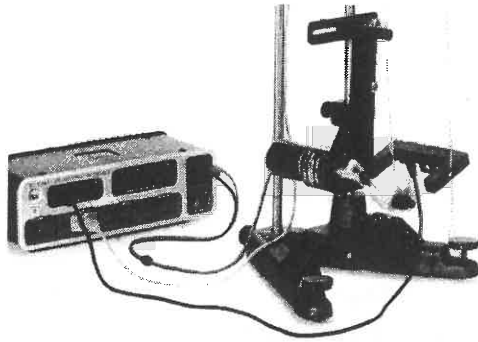

Figure 2. Driver Photogate
1. Mount the driver on a rod base and attach a photogate to the driver as shown in Figure 2. Use two vertical rods connected by a cross rod at the top for greater stability. See Figure 4.